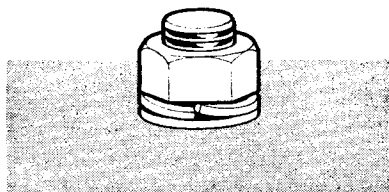

Fig. 4. Spring washer
b. *Spring washer.* This is a single coil of square section spring with sharp ends and is fitted as shown in Fig. 4. When the nut is tightened the sharp ends of the spring dig into the nut and the surface and hold the nut in position. Provided the spring washer retains its springing action it may be re-used. To prevent damage to the face of a component a plain washer may be fitted below the spring washer.